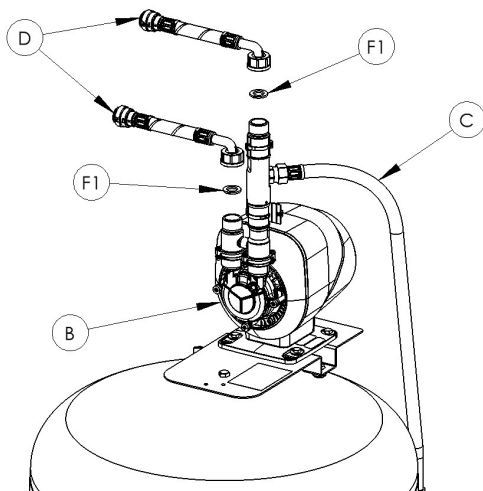

Fig. 7
- ⌘ Fit the short flexible hoses (item D) to the inlet and outlet of the pump using the sealing washers (item F1), see Fig. 7.